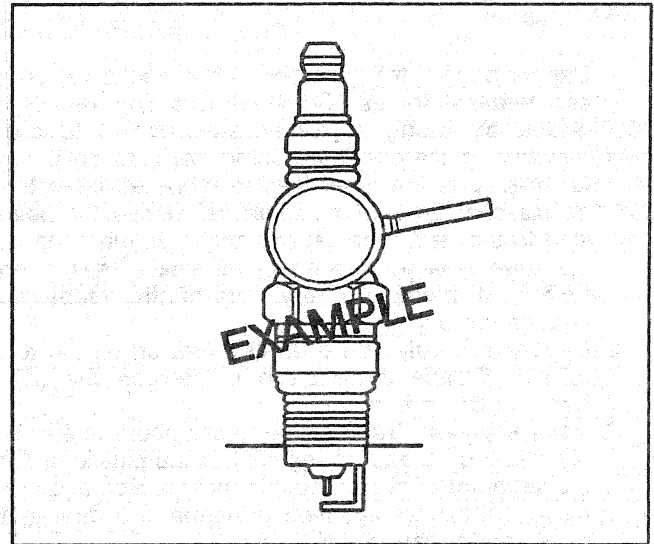

Figure 5—High Efficiency (HE) Spark plug
Resistor-type, tapered-seat spark plugs are used. No gasket is used on these plugs. These spark plugs are a High Efficiency (HE) spark plug that has a fine wire electrode, nickel plated shell and a platinum pad across from the electrode (Figure 5). These features give the HE spark plug long life durability. Refer to SECTION 0B or to the Vehicle Emissions Control Information label on the engine cooling fan shroud for correct gap information.